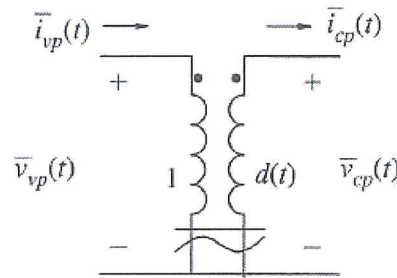

Fig. 3
- 2.1 For designing feedback controller, the power stage of the DC-DC converter must be linearized around the steady state DC operating point, assuming a small signal disturbance. A typical linearization of the switching power-pole is given in Fig. 3. Each average quantity in Fig. 3 can be expressed as the sum of its steady state dc value (represented by upper case letter) and a small-signal perturbation (represented by a ‘ \sim ’ on top). Neglect the products of the small perturbation terms.